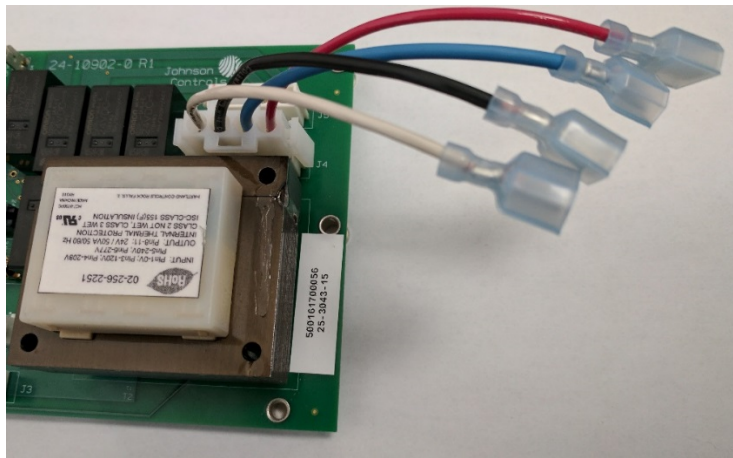

Figure 15 – WH5 on J4 of FRBii
11. Connect motor wires to FRBii (see Figures 15 and 16 – actual wire colors will vary based on motor type)